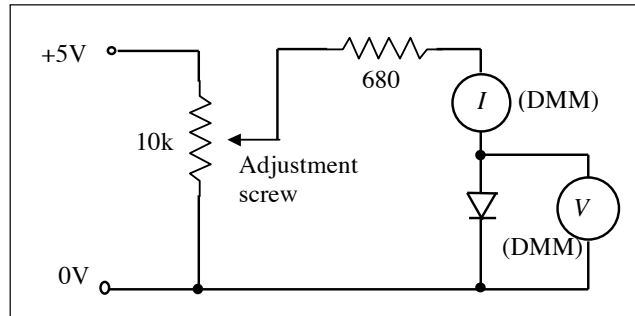

Figure 2 Circuit for measuring diode characteristic
- Construct the circuit of figure 2 on the breadboard. The 10 kΩ variable resistor forms a potential divider, allowing you to vary the voltage across the diode.